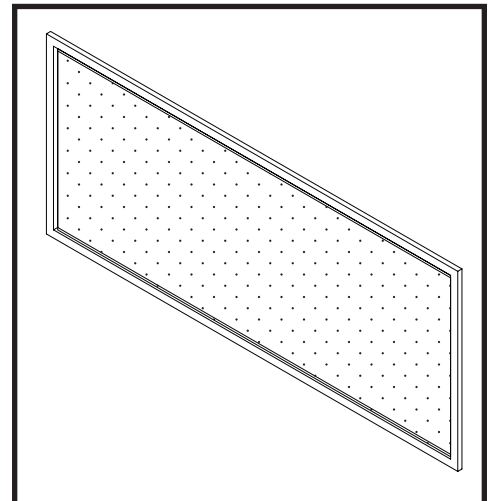

Figure 72: TCWS38 Safety barrier screen.
6. Attach the magnetic safety barrier screen (Figure 72) to the outer-most door frame.